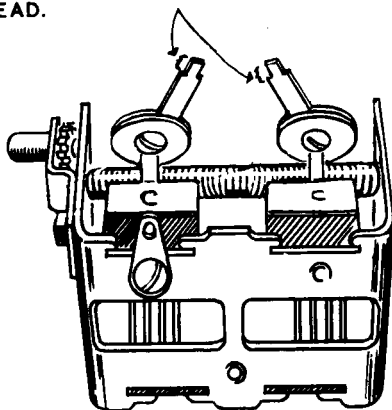

Fig. 6
- () Observing Figures 6 and 7, loosen the nut holding the disc condenser on the stator lug nearest the slide switch so that the condenser is just loose enough to be rotated.